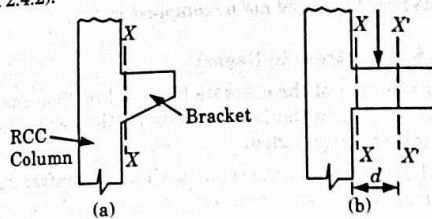

Fig. 2.4.2. Critical section at the face of the support.
- Critical section occurs at the face of the support where the support offers a tensile reaction Fig. 2.4.2.
concentrated load between the face of the support and the distance 'd' (Fig. 2.4.2).